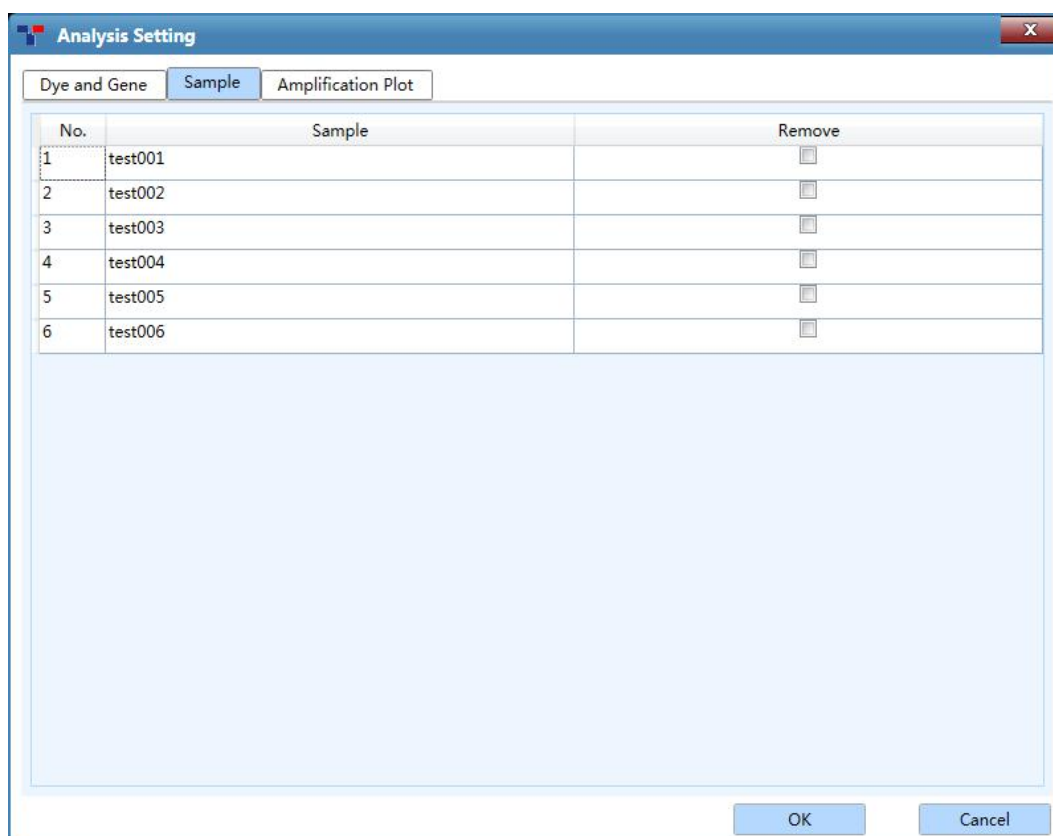

Figure D-10.2 Abs Quant Analysis Setting interface - Sample tab
- **Sample** tab: display all **Sample** names of the current experiment, as shown in figure D-10.2.